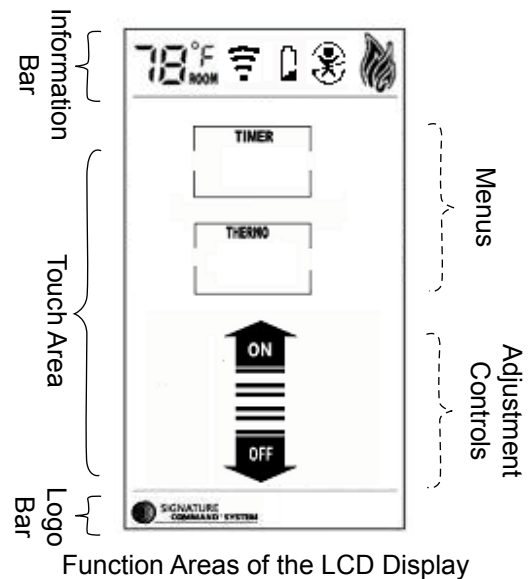

Figure 49
1. The RF receiver button located on the Control Board must be in the on position before the learn function can begin. Use paper clip to depress button. One beep for RF receiver ON or two beeps for RF receiver OFF will be given as confirmation. Refer to *Figure 49* for location.
Figure 49 shows the display of the TSTSC LCD.